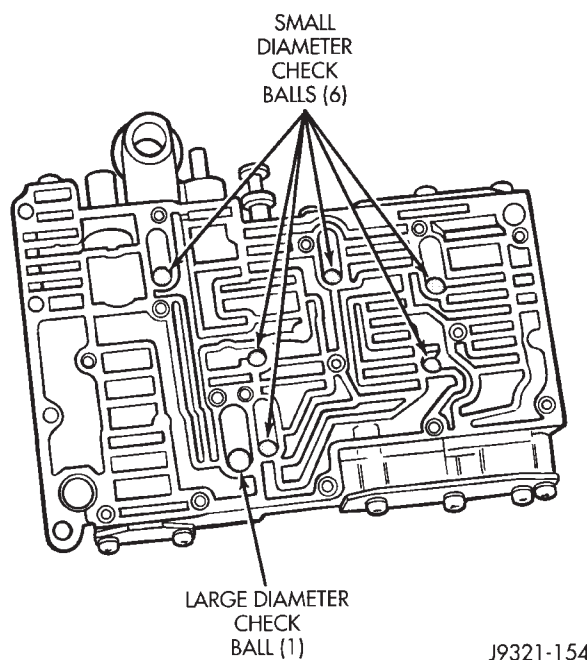

Fig. 62 Check Ball Locations In Upper Housing
(1) Note location of check balls in valve body upper housing (Fig. 62). Then remove the one large diameter and the six smaller diameter check balls.